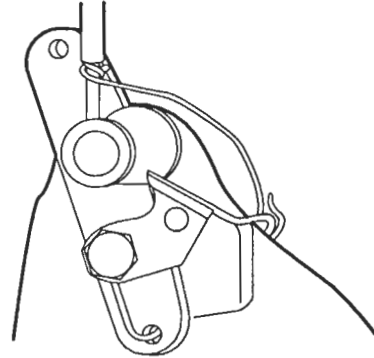

Figure 4. Cam Latch Wired to Prevent Movement
7. Align the notch on the cam with the latch and hold in this position with a piece of stiff wire (Figure 4.)